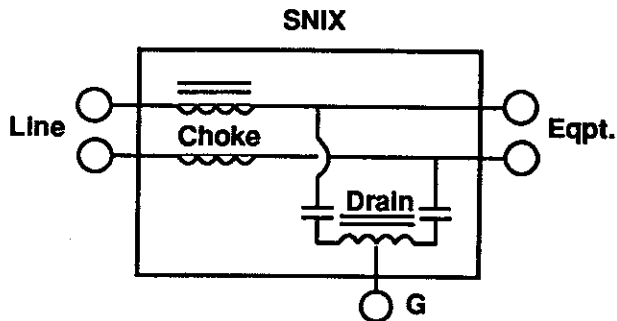

Figure 5
4.01 The SNIX is a broadly tuned, single pair coil and drainage unit. Electrically it contains a longitudinal choke coil and a capacitively coupled, center tapped HDR (Harmonic Drainage Reactor) drainage coil. See Figure 5.